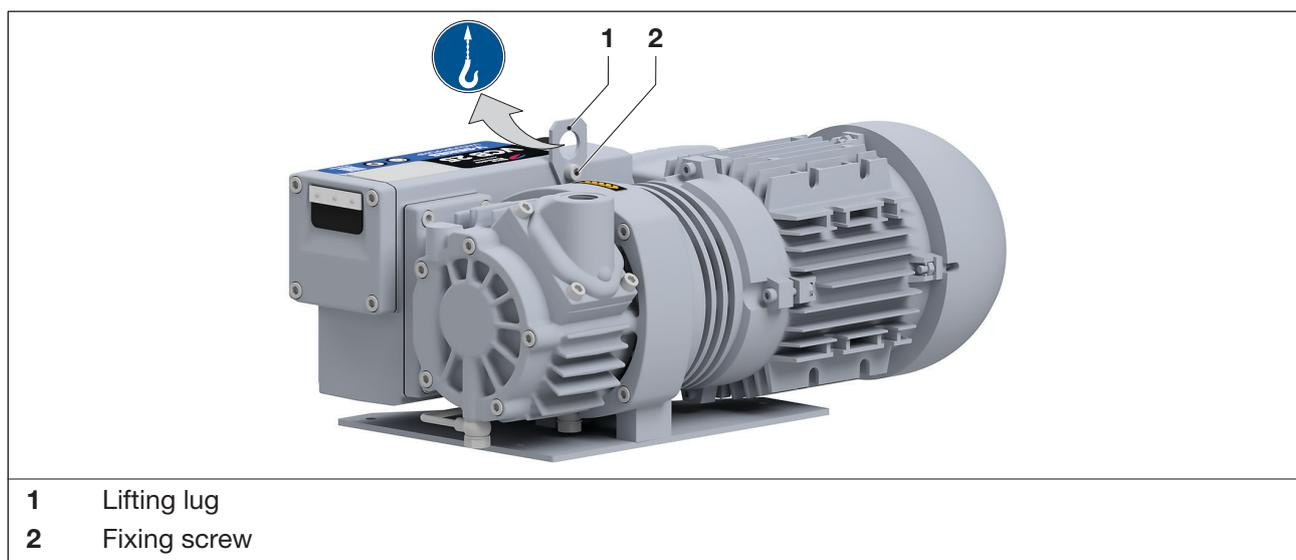

Fig. 1 Load handling equipment for lifting and transporting
- b) Tighten the fixing screw (Fig. 1/2) on the lifting lug (Fig. 1/1) firmly.